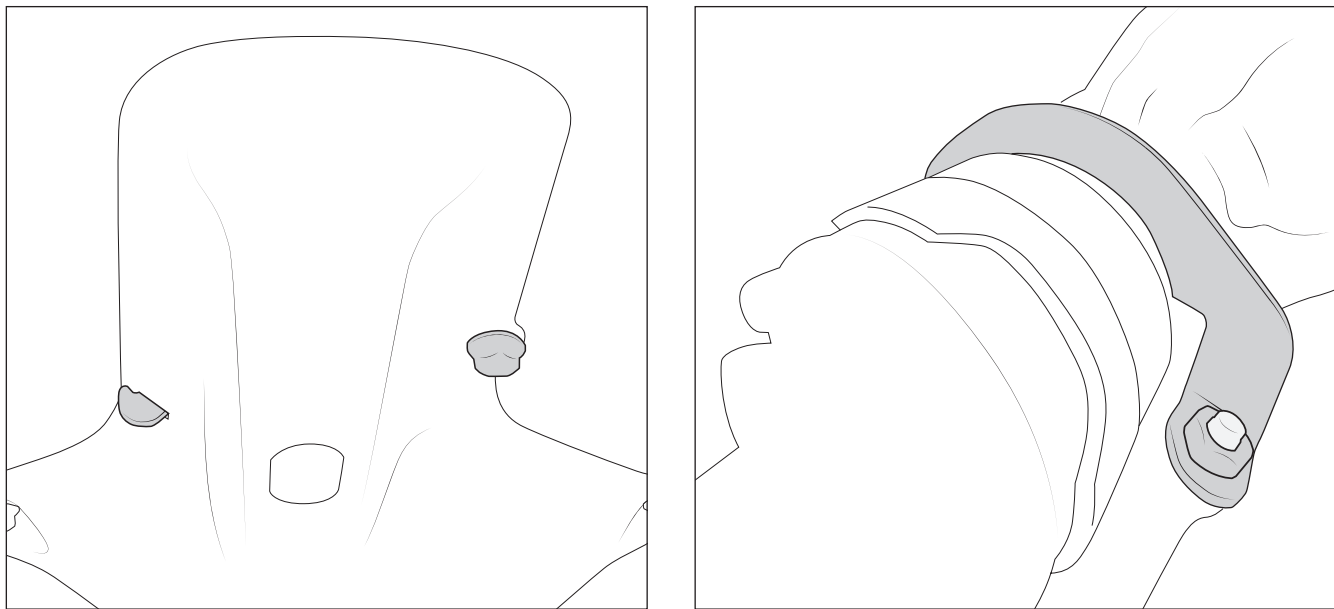

Figure 2
2. Insert the hooked end of the clamp into the slot. Pivot around the differential until aligned with the bolt hole. Install the M10 bolt and torque to 35 ft-lbs. (fig. 2).